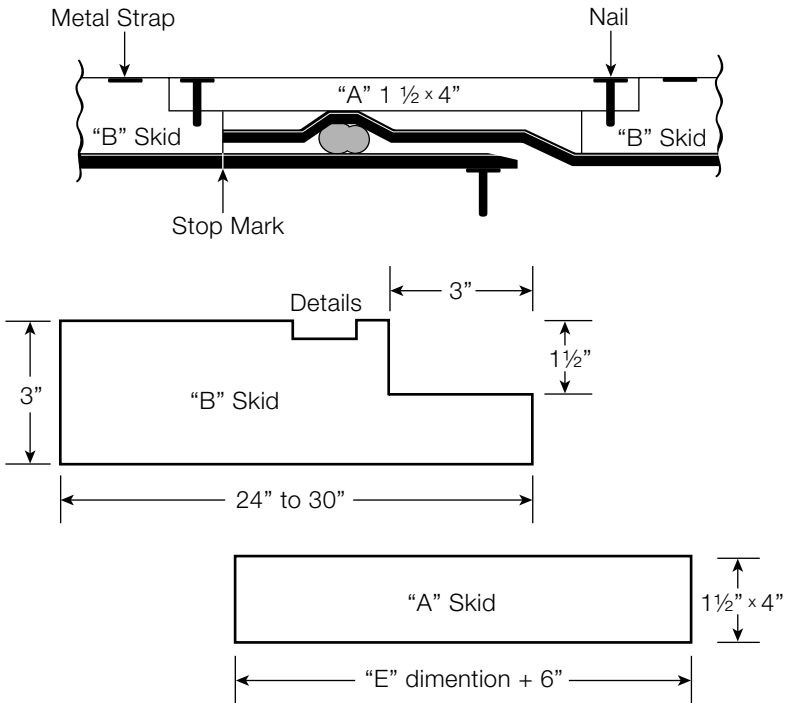

Figure 6
NOTICE: In order to prevent over-insertion of the pipe joint while installing it through casings, some method of restricting the movement between the assembled bell and spigot must be provided. Four such assemblies should be made at 90-degree spacing around the pipe bells. All “B” Skids must be tightly strapped to the pipe by metal strapping or similar material. Also, note that all skids should be notched and leveled so that they form a smooth, flat bottom. This is necessary so that no portion of the pipe is carrying the total load. An illustration of one proposed method is shown in Figure 6.
1. Arrange the skids and position braces on the pipe as shown in Figure 6. They will accommodate the grouting hose.